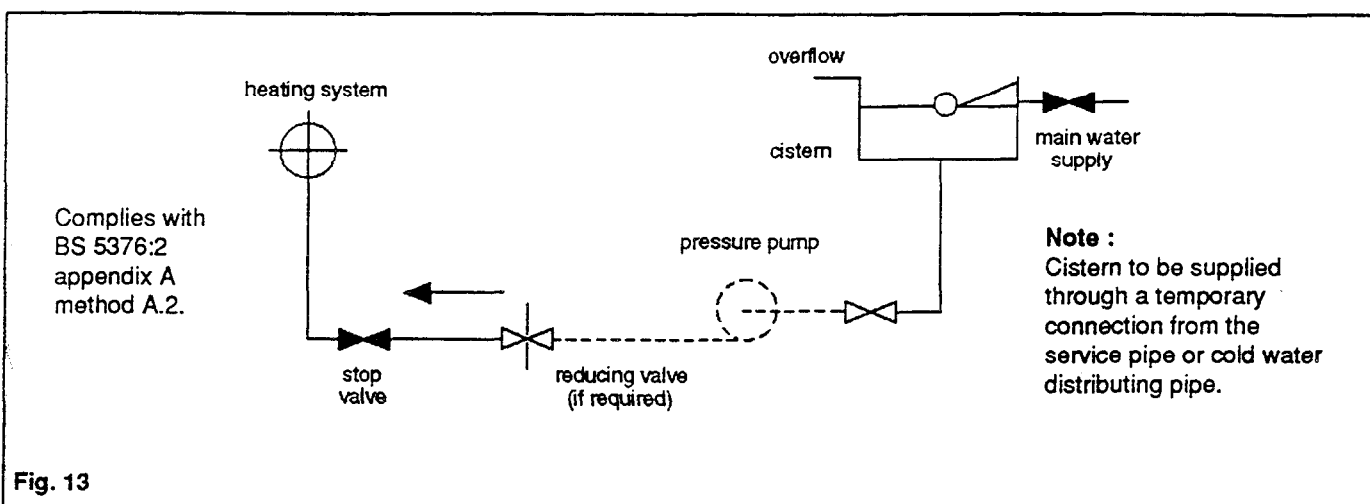

Fig. 13
- 2) Through a self contained unit comprising a cistern, pressure pump if required and if necessary a pressure reducing valve or flow restrictor, fig. 13.